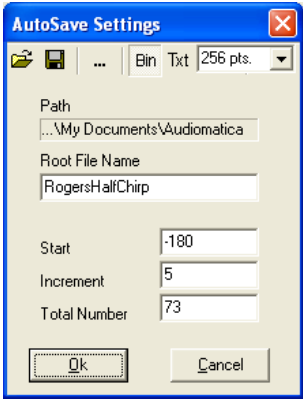

Fig.5.3 Autosave settings
**Path** defines the folder where the file will be saved; it is possible to choose it clicking on the browse for folder button (...). In Fig.5.3 we see path defined as My Documents\Audiomatica
**Root File Name** defines the part of the file name that will not change during autosave; in Fig.5.3 it is 'RogersHalfChirp'.
**Start** defines the initial number appended to the root. This number will always be multiplied by 100 to give space for two decimals management. Numbers are appended with spaces. In Fig.5.3 start is -180; this will define the first autosaved file name as 'My Documents\Audiomatica\RogersHalfChirp -18000'
**Increment** defines the increment to be given to the autosaved file names. In the example of Fig.5.3 the second autosaved file will be named 'My Documents\Audiomatica\RogersHalfChirp -17500'